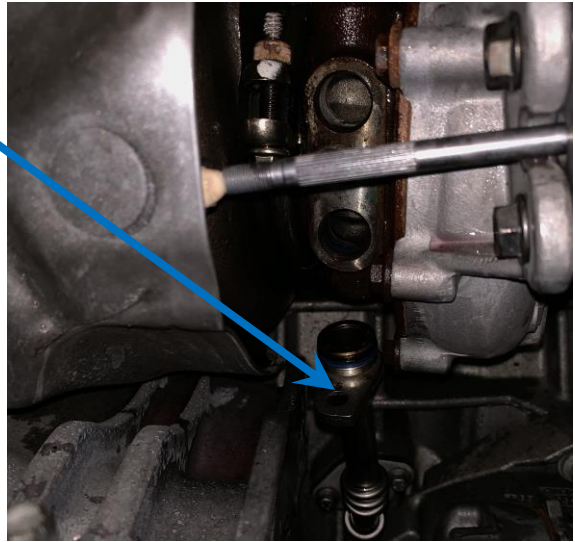

Fig. 10
1. Locate oil drain line. Loosen & remove bolt. See Fig. 10 (use 8mm or 10mm socket)